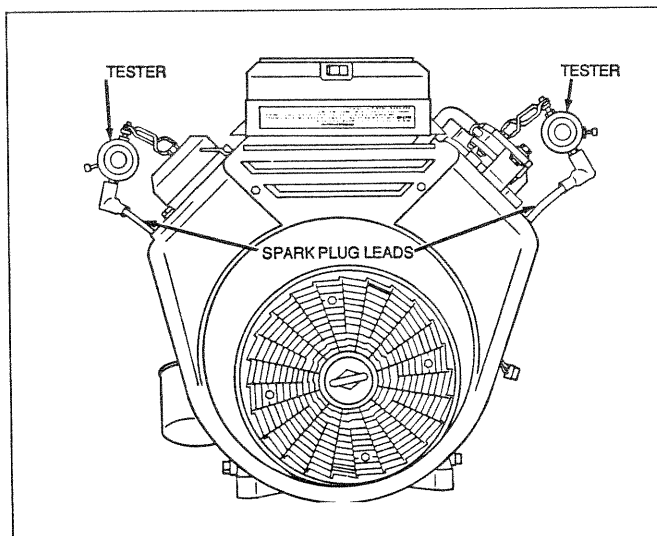

Figure 185. Checking for Spark
- Attach the clamp of a suitable spark tester tool to the cylinder head. Attach the spark plug wire to the spark tester terminal. See Figure 185.